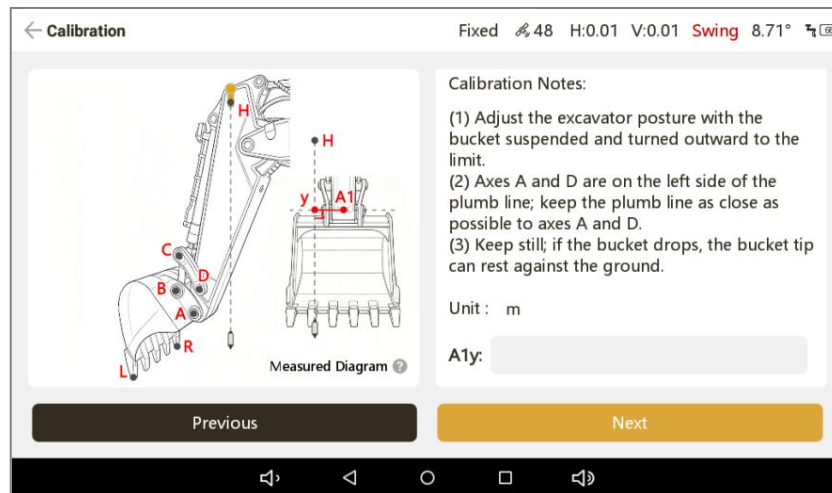
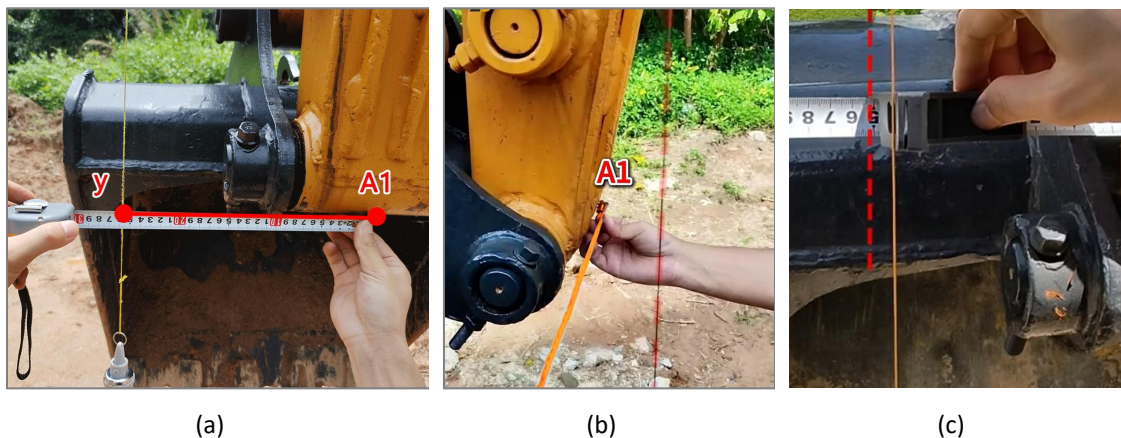

Figure 3-80
Figure 3-81
- (9) Measure the distance **A1y** from the midpoint of the arm **A**-pivot to the plumb line plane, then enter it and tap 'Next' at the bottom, as shown in Figure 3-80. You may first measure the width of the arm **A**-pivot to find its midpoint, then use the plumb line as a reference, place the tape measure horizontally, and read it perpendicularly. An auxiliary measuring tool can be used to help align with the plumb line, as shown in Figure 3-81.